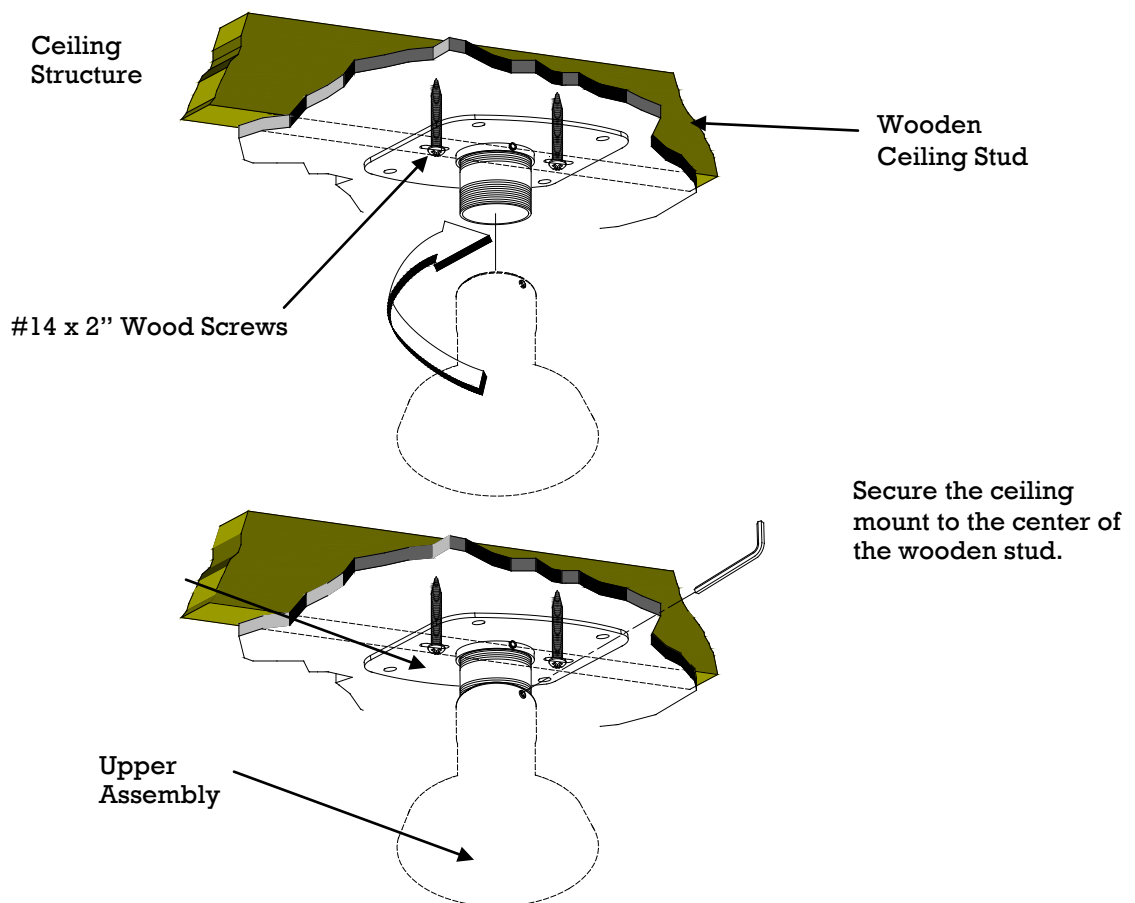

Figure 5. Securing the Upper Assembly Ceiling Plate
Step 1. Secure the ceiling assembly into a solid wood ceiling stud with the two (2) #14 x 2" wood screws (supplied) or with other (commercially available) hardware depending on your installation environment (Figure 5).